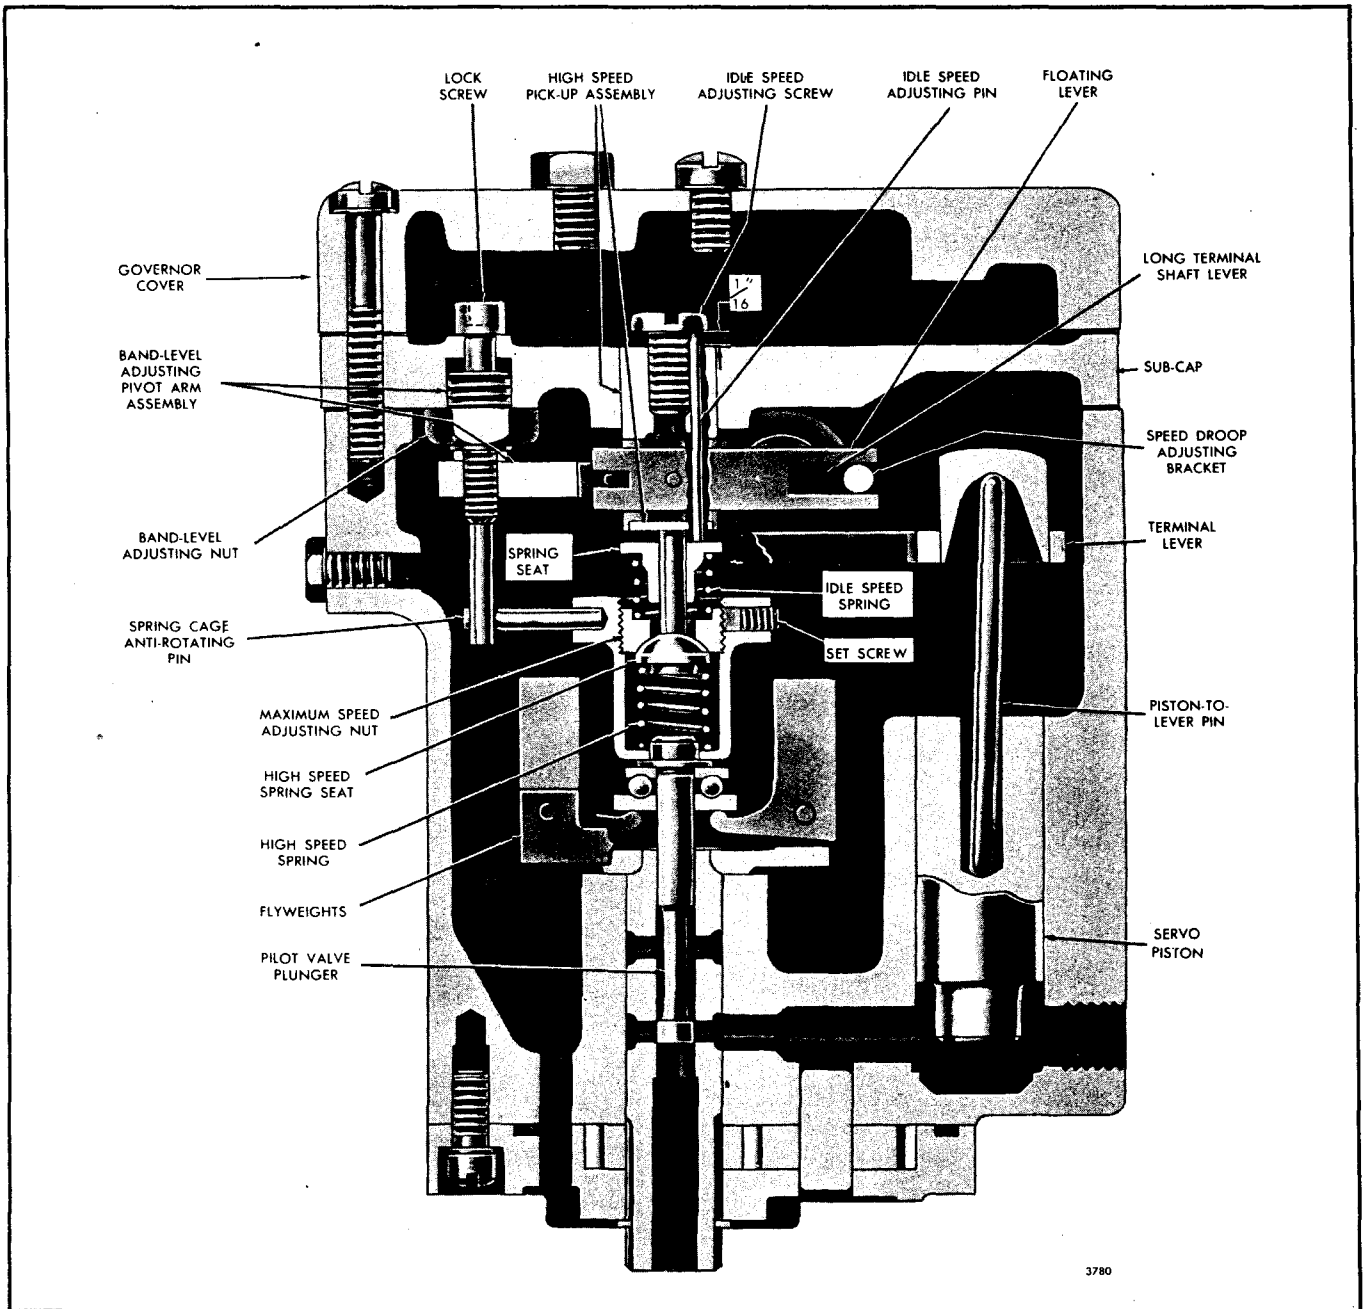

Fig. 8 - Cross-Section of Limiting Speed Hydraulic Governor for 16V Engine
2. With a long thin screw driver, pry one of the flyweights outward with a light force (Figs. 8 and 9). It should reach a vertical position. If not, proceed with Step 3.
3. Loosen the band-level pivot arm lock screw and turn the band-level adjusting nut (Figs. 8 and 10) clockwise to raise the band-level or counter-clockwise to lower the band-level. Tighten the lock screw to draw the pivot arm assembly in place. Then check the adjustment as described in Step 2. Readjust the band-level, if necessary.
between the bottom of the idle speed adjusting screw head and the plunger directly under the screw head (Fig. 8).
4. Hold the speed control lever in the idle position. Then turn the idle speed adjusting screw (Figs. 8 and 10) in or out until the desired idle speed is obtained.
anti-rotating pin) in the high speed spring cage with a 5/64" Allen wrench (Figs. 8 and 12).